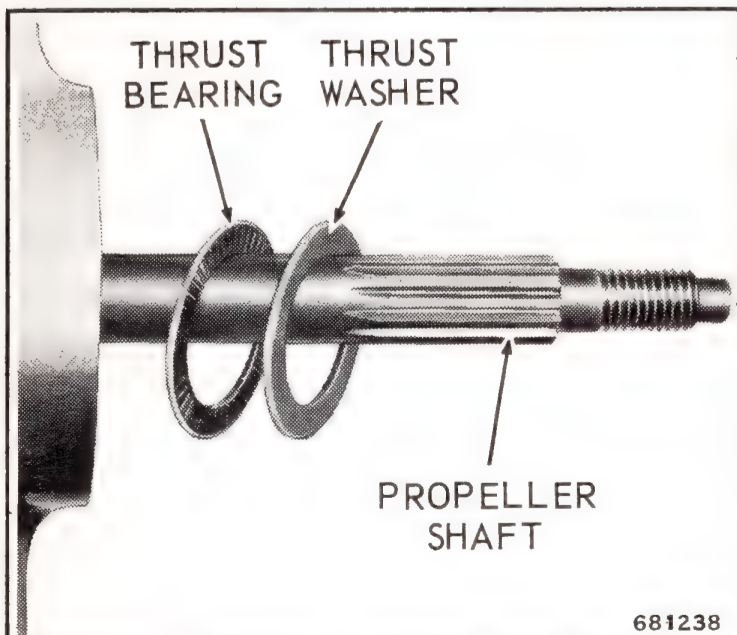

Figure 6-21. Thrust Washer and Bearing
f. Remove thrust washer and thrust bearing. See Figure 6-21.